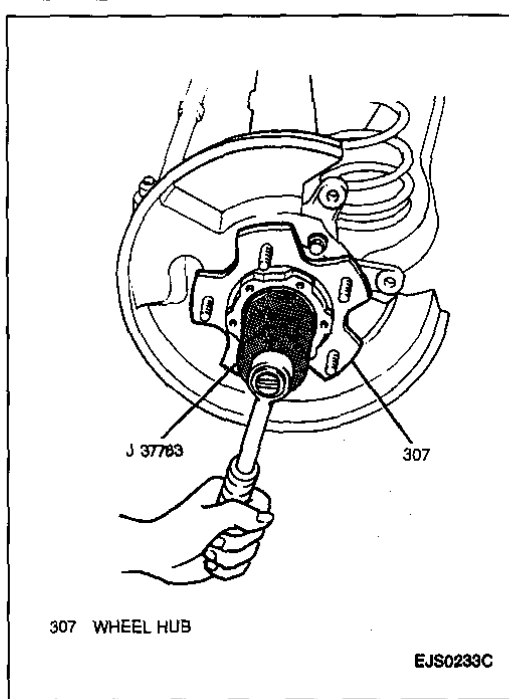

Figure 23—Removing Wheel Bearing Lockout
7. Wheel bearing locknut by using a J 37763 (Figure 23).